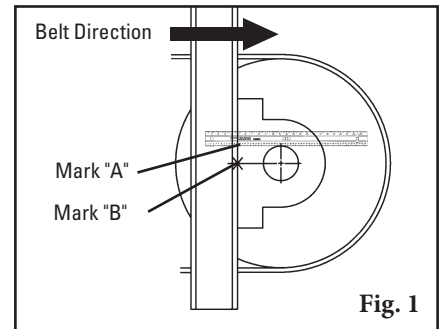

Fig. 1
- 2b. Put a level on top of the pulley shaft and draw a horizontal line A.** Measure down from Line A half the diameter of the pulley shaft and draw Line B parallel from the pulley shaft (Fig. 1).
- Put a level on top of the pulley shaft and mark A at the structure.** Measure down from Mark A half the diameter of the pulley shaft and mark B, locating the shaft centreline (Fig. 1).